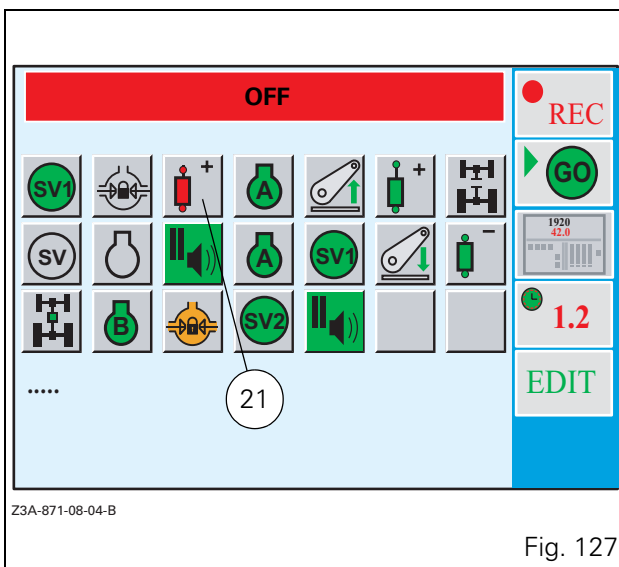

Fig. 127
- Validate either by pressing the encoder, or by pressing key <<1. The window (21 Fig. 127) is displayed with the inserted icon.